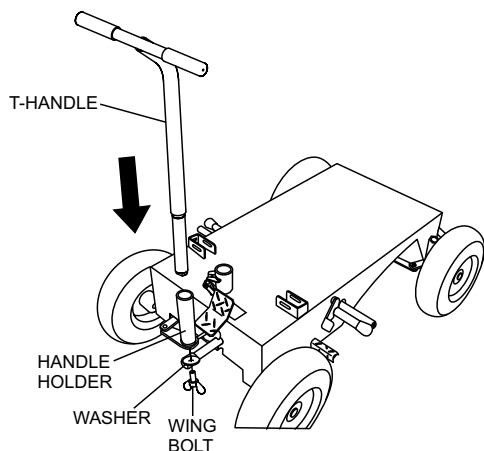

Figure 4. T-Handle Installation
2. Insert the T-handle into the handle holder on the cart. Tighten with the wing bolt. See Figure 4.